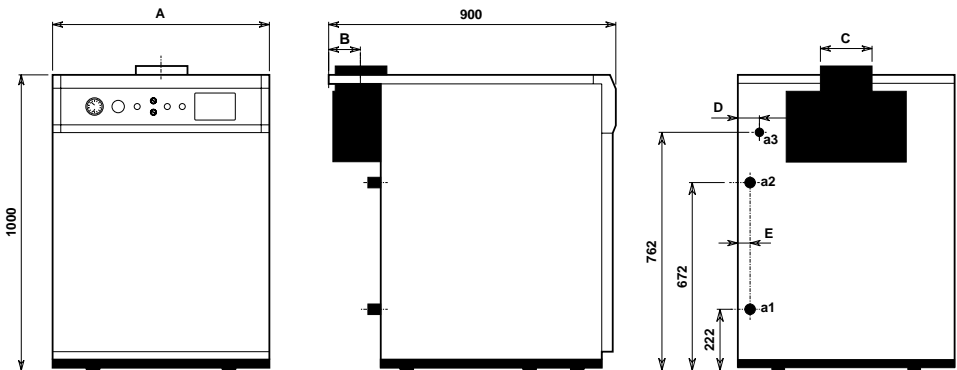

Fig. 1
2.01 Dimensional data (see fig. 1 and table 2)